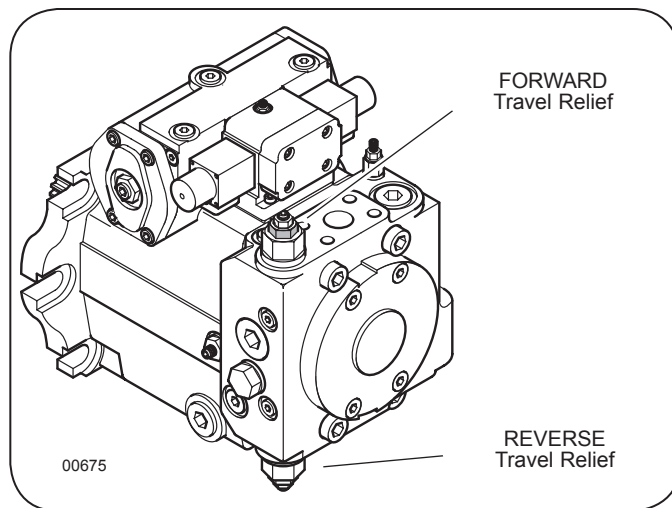

Figure 6: Wheel Drive POR Relief
10. Locate the directional relief for the direction of travel that requires adjustment. See Figure 6.